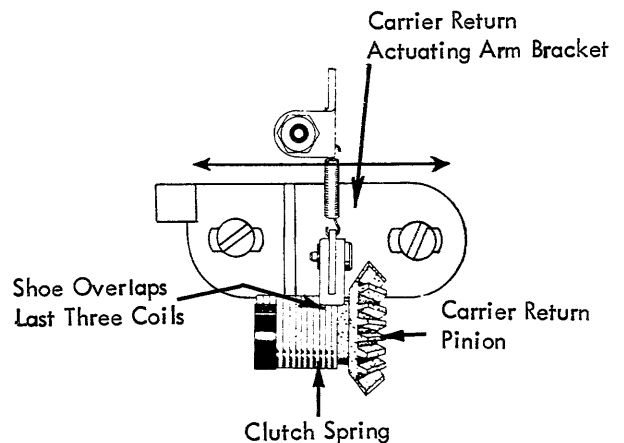

FIGURE 143. Carrier Return Shoe
5. Carrier Return Shoe - Adjust the carrier return actuating arm bracket left or right so that the carrier return shoe overlaps the last 3 coils on the right hand end of the clutch spring. Covering the last 3 coils insures that all the coils of the spring will be used in the clutch operation (Fig. 143).